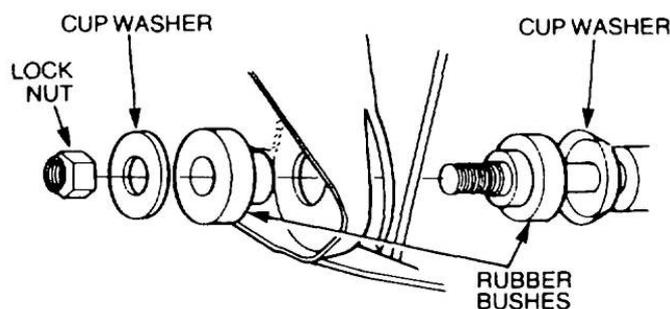

Figure 106 Removal of the Radius Arm Bush
- f. Remove the locknut, washers and rubber bushes from the chassis end of each radius arm (Figure 106) and discard the locknuts.